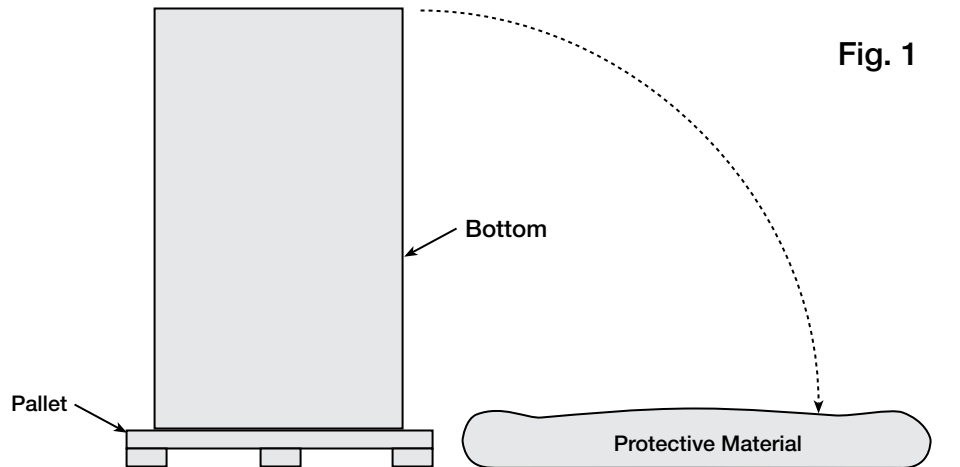
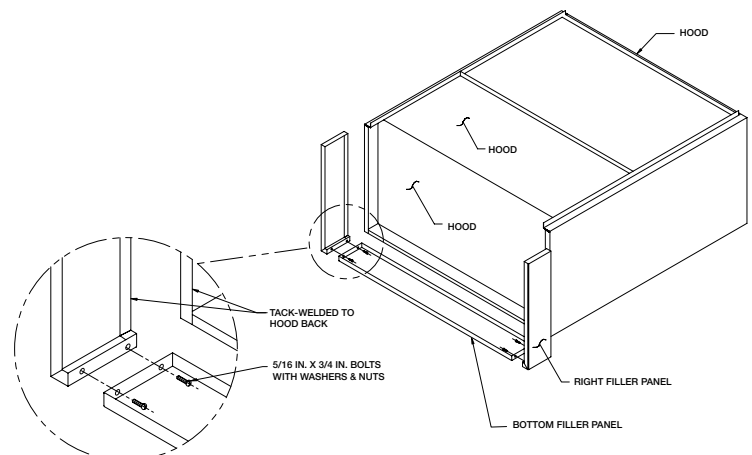

Fig. 1
Fig. 2
material on the floor next to the crate to avoid damaging the hood as it is tipped on its side; Fig. 1. Tip the hood carefully onto the protective material. If you have filler panels, install them now; Fig. 2. If you have integral filler panels, no additional installation is needed.
1. Uncrate the hood and lay it on the floor with protective material between the hood and the floor. (Fig. 1)
3. Position the filler panels to the hood back, and tack-weld them into place. (Fig. 2)